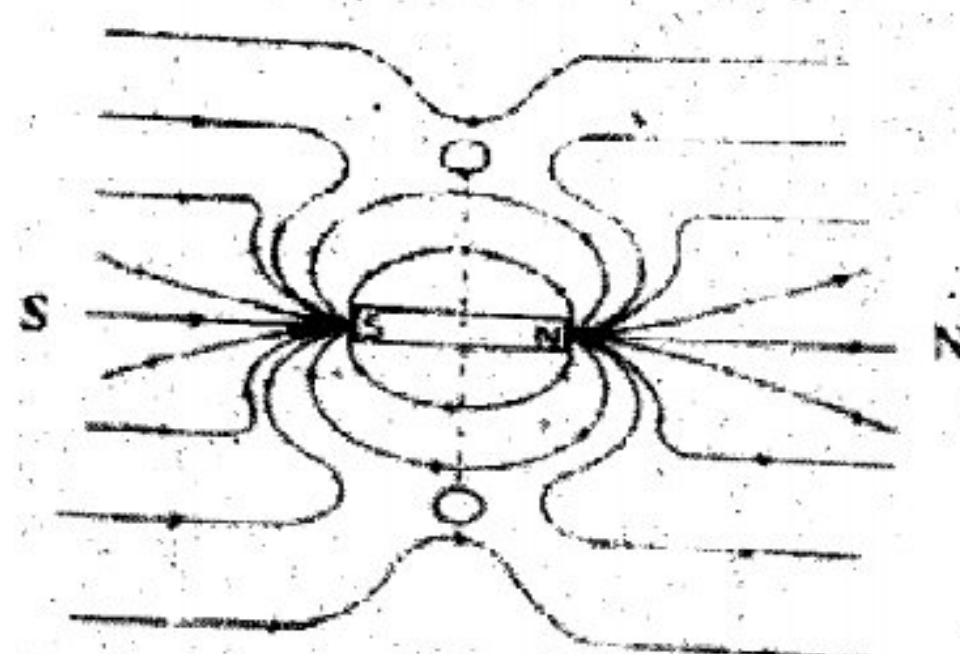

Fig. 9.7
- (iv) Draw such lines for different starting points and you will get large number of lines of force around the magnet. Their shape will be as shown in Fig. 9.7.
These lines will not cut each other. You will get two regions on the equatorial line shown by small circles in Fig. 9.7, where there will be no line of force. These are the neutral points. There are two neutral points, one on each side of the magnet. If you place the compass here in the circle with its centre at the neutral point, the needle wire not point in any fixed direction. It can come to rest in any orientation. That shows that no force is acting on it. If magnet is properly placed, each of